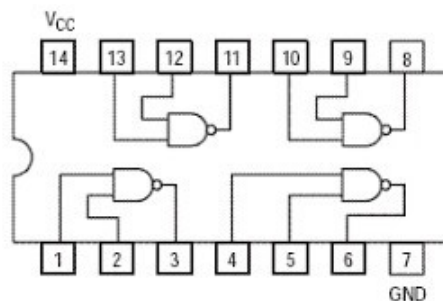

Fig 2.2: 74LS00 2-input NAND gate IC pin configuration
In order to implement the NAND gate operation using IC, the TTL 74LS00 2-input NAND gate IC can be used. This IC has 14 pin Dual Inline Package (DIP) configuration as shown in Fig 2.2. The power supply connections are made to pin 7 and 14. Pin 1 is identified by a small indented circle next to it or by a notch cut out between pin 1 and 14.
- Pin Assignments for the ICs have been shown in Fig 2.2